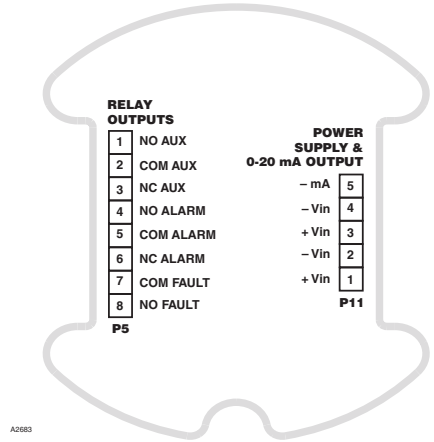

Figure 9—30-3013 Wiring Terminals
- Figure 9 shows the wiring terminals.